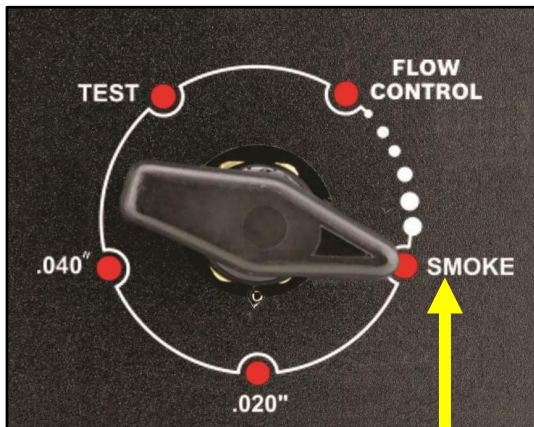

Figure 3
- G. Remove plastic cap, exposing pressure regulator adjustment. (Figure 3)